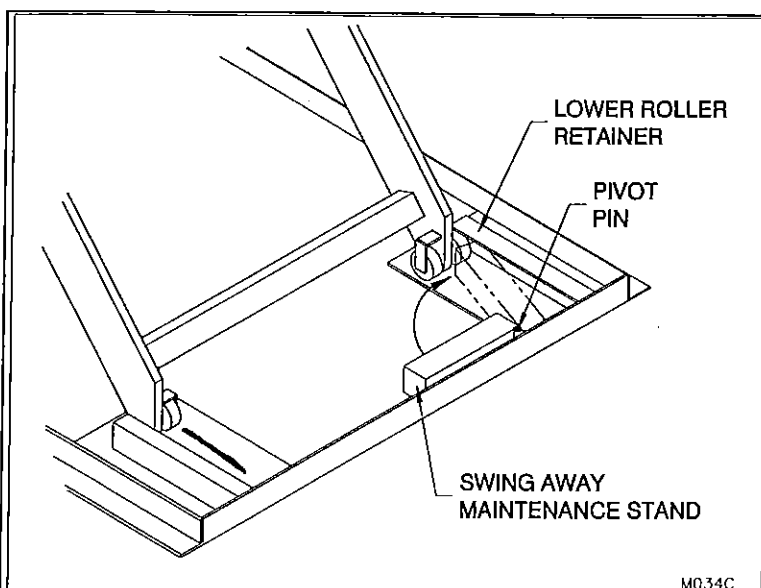

Figure 11: How to Support the Elevating Dock for Maintenance
NEVER GO BENEATH THE ELEVATING DOCK FOR ANY REASON UNLESS THE DECK AND LIP(S) ARE PROPERLY SUPPORTED (SEE FIGURE 11, PAGE 14) AND THE POWER IS DISCONNECTED, PROPERLY TAGGED AND LOCKED OUT. IT IS THE RESPONSIBILITY OF THE OWNER TO ENSURE THAT NO LOAD OR TRAFFIC IS PLACED ON THE DECK WHILE THE MAINTENANCE STAND IS ENGAGED. THE CONSTRUCTION OF THE MAINTENANCE STAND IS INTENDED TO SUPPORT THE WEIGHT OF THE UNLOADED ELEVATING DOCK ONLY.
2. At the rolling end of the elevating dock, the swing away maintenance stand pivots on a pin. Swing the maintenance stand as far around as possible into the path of the rollers. (See Figure 11, Page 14)